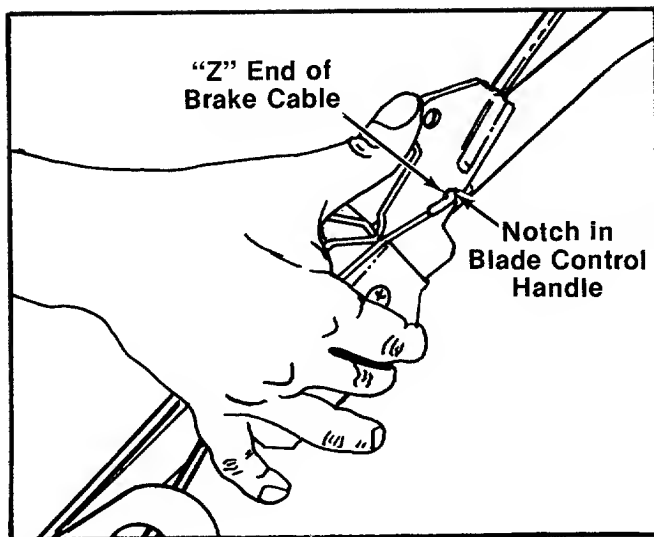

FIGURE 9.
- a. Hook the "Z" end of the cable into notch provided in the blade control handle. See figure 9.